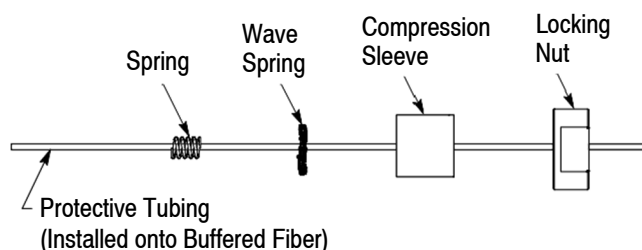

Figure 2
- f. Slide the components shown in Figure 2 over the buffered fiber and onto the protective tubing. Make sure to orient each component as shown.
b. Slide the components shown in Figure 2 onto the protective tubing, allowing 23±1 mm at the end of the tubing for stripping. Make sure to orient each component as shown.